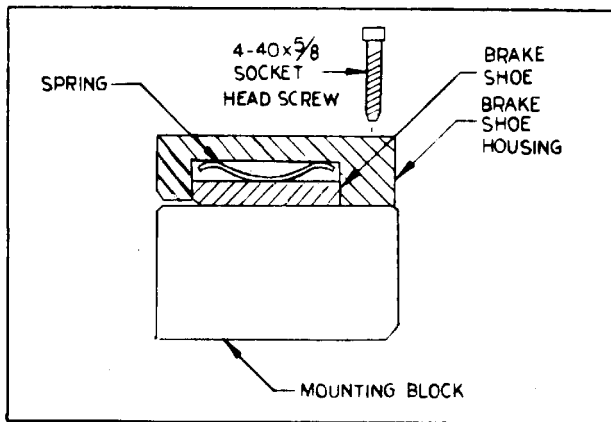

Figure 5.2.
The brake system is composed of two high speed d.c. electromagnets located below the normal tape path. Refer to Figure 5-2. As the magnets are energized, each one actuates a brake shoe housed above the tape which clamps the tape to the magnet housing. This double braking action insures accurate and rapid stopping.
- e. Reassemble the brake shoe housing as shown in Figure 5-2 and remount it to the mounting block.